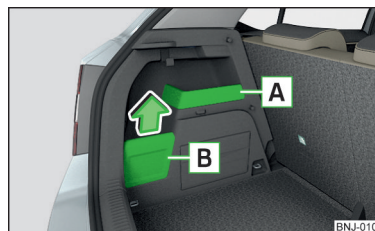

Fig. 94
- Place the item of luggage suspended from a hook, if possible, in the storage compartment **B** » Fig. 94 on page 77, otherwise there is a risk of damaging the storage compartment cover.
- If an item of luggage weighing more than 2.5 kg is suspended on the hook, then we recommend removing the storage compartment cover **B** » Fig. 94 on page 77, otherwise there is a risk of damaging the storage compartment cover.
The integrated storage compartment **A** » Fig. 94 is suitable for stowing small objects weighing up to 1.5 kg in total.